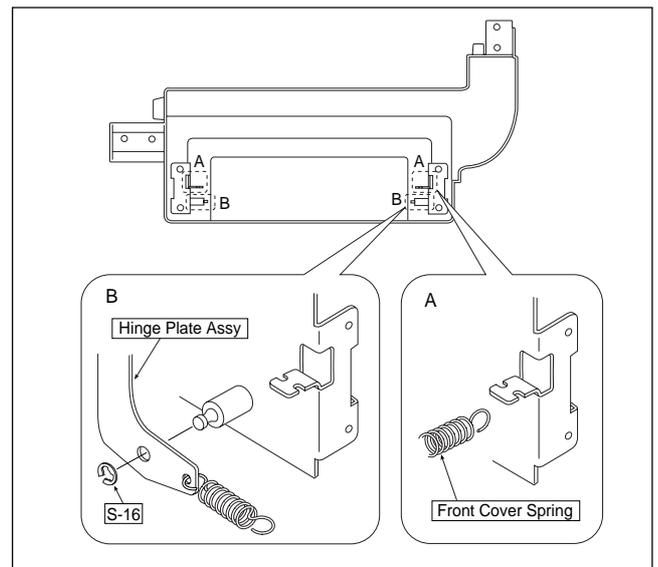

Fig. 12
11) Remove the Front Cover Unit. (See Figures 12 and 13.)
1. Remove the Front Cover Spring as shown in portion A of Figure 12.
2. Remove the "S-16" E-ring in portion B of Figure 12 and remove the Hinge Plate Assy.